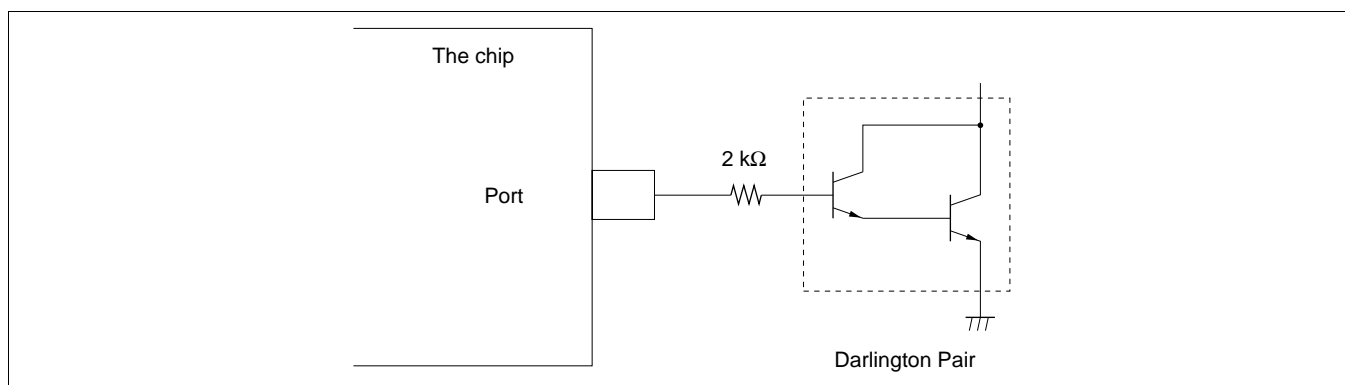

Figure 22-1 Darlington Pair Drive Circuit (Example)
2. When driving a darlington pair or LED directly, always insert a current-limiting resistor in the output line, as show in figures 22-1 and 22-2.